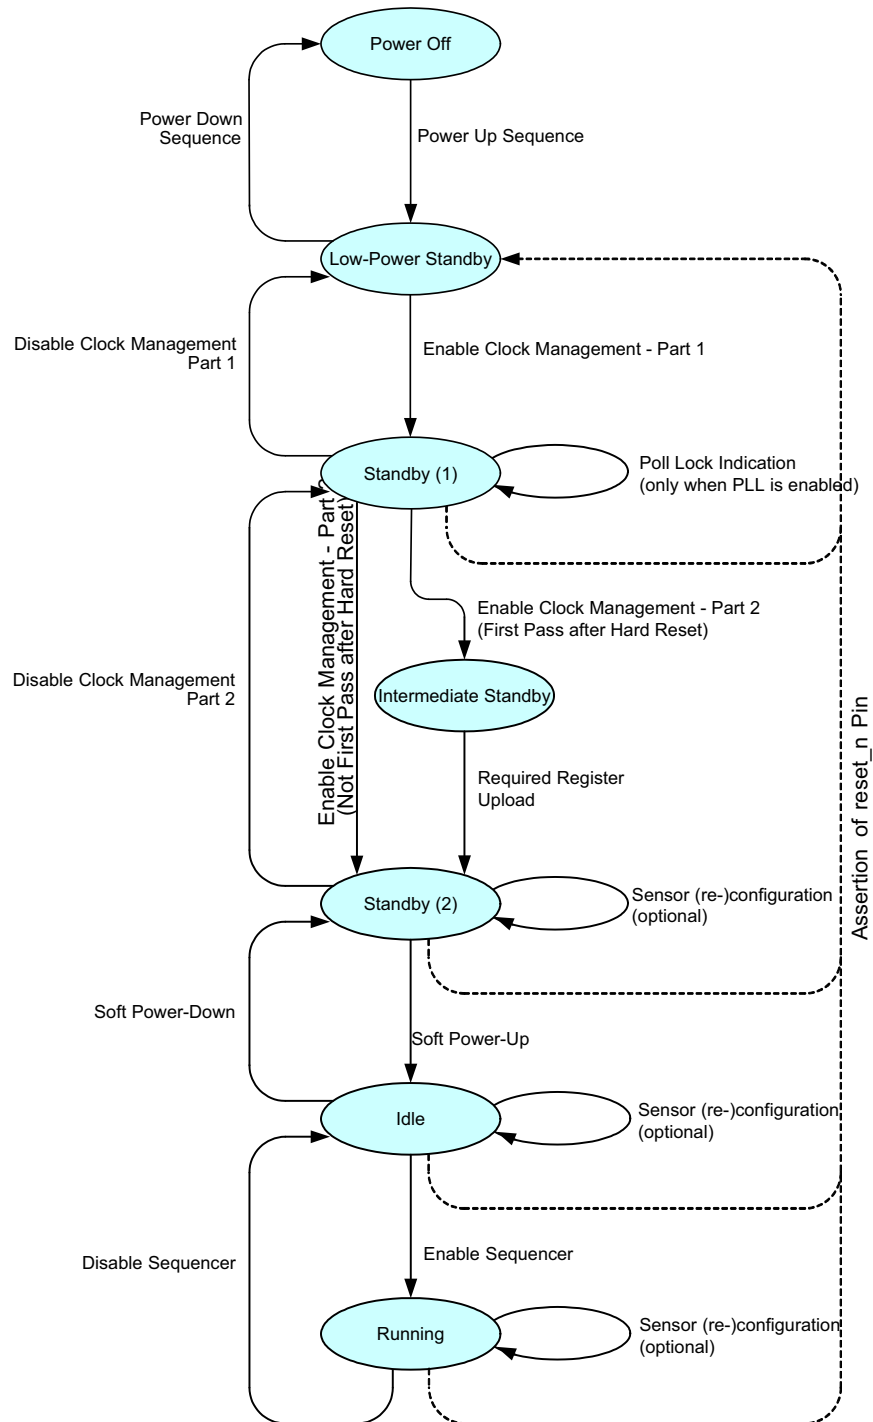

Figure 15. Sensor Operation Flowchart
Figure 15 shows the sensor operation flowchart. The sensor has six different 'states'. Every state is indicated with the oval circle. These states are Power off, Low power standby, Standby (1), Standby (2), Idle, Running.
Check the PLL_lock flag 24[0] by reading the SPI register. When the flag is set, the 'Enable Clock Management– Part 2' action can be continued. When PLL is not used, this step can be bypassed as shown in Figure 15 on page 14.